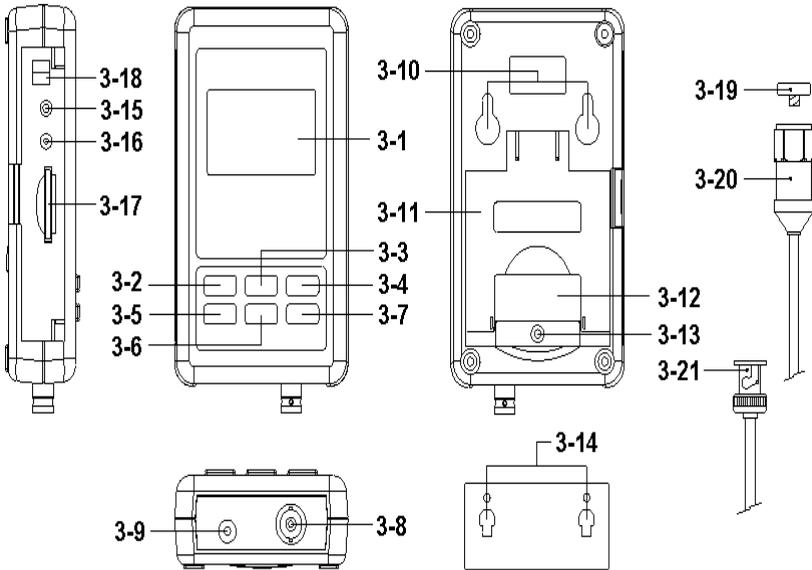

Fig. 1
- * Loose the " Screw of the battery cover " (3-13, Fig. 1) and take away the " Battery Cover " (3-12, Fig. 1) from the meter.
- * Plug the output plug of " AC to DC adapter " into the " DC 9V power adapter input socket " (3-9, Fig. 1)
Connect the vibration pickup to the cable supplied. Make sure it is firmly attached. Connect the cable to the meter by attaching it to the "BNC connector(3-8, Fig. 1) on the Bottom of the meter. If the surface to be tested is magnetic, attach the magnetic base to the vibration pickup and attach the pickup to a flat surface. If the surface to be tested is not magnetic, hold the pickup against the surface. Do not hold the cable while making measurements.
The currently selected unit of measure is shown on the meter's LCD. To change the unit of measure, press and hold the ▲ Button " Unit Button (3-3, Fig. 1)" until the desired unit of measure appears and then release the button.
"FUNCTION button(3-6, Fig. 1)" until the desired function appears, then release the FUNCTION .
To freeze a displayed reading on the LCD, momentarily press the "HOLD button (3-4, Fig. 1)" (the HOLD icon will appear above the reading). To exit HOLD, press the HOLD button again.
Press the "Time button (3-5, Fig. 1)" once, display will be show Year/Month/Date, Hour/Minute/ Second and samling time information.
Prepare a " SD memory card " (1 GB to 16 GB, optional), insert the SD card into the " SD card socket " (3-17, Fig. 1) with the correct direction exactly.
Press the " Logger button (3-7, Fig. 1) > 2 seconds continuously, until the Display show the indicator " DATALOGGER ", release the " Logger Button " (3-7, Fig. 1), then the measuring data along the time information will be saved into the memory circuit.
During execute the Datalogger function (Display show the " Datalogger " indicator), press the " Logger button " (3-7, Fig. 1) > 2 seconds continuously, until the Display indicator " DATALOGGER " is disappeared, release the " Logger Button " will finish the Datalogger function.
Press " Time button " (3-5, Fig. 1) > 2 seconds continuously, the LCD display will present the time information of Year/Month/Date, Hour/Minute/Second and the sampling value.